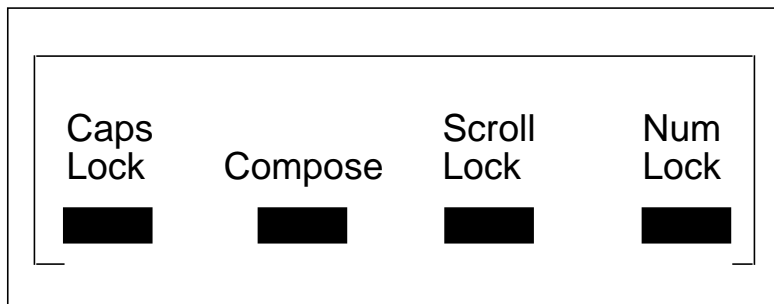

Figure 2-2 Arrangement of Keyboard LEDs
The Power-On Self-Test (POST) runs automatically when you turn on the system's power switch or reboot the system. The POST code, which resides in the boot PROM, is executed by the CPU (IU) when the Por signal is received from the power supply. Por is a Power-On reset TTL open collector signal from the power supply, which is activated after DC voltages have risen. The POST consists of a sequence of tests designed to test the major hardware components of the main logic board, in a short time before SunOS is booted. POST does not perform extensive testing on any component of the main logic board. Only major failures can be detected by POST. If a failure occurs in POST, a specific LED pattern is displayed on the four LEDs located on the upper right corner of your keyboard. Figure 2-2 shows the arrangement of keyboard LEDs.
This section describes the keyboard LED patterns as a result of POST and their meaning. Figure 2-2 shows the arrangement of keyboard LEDs.